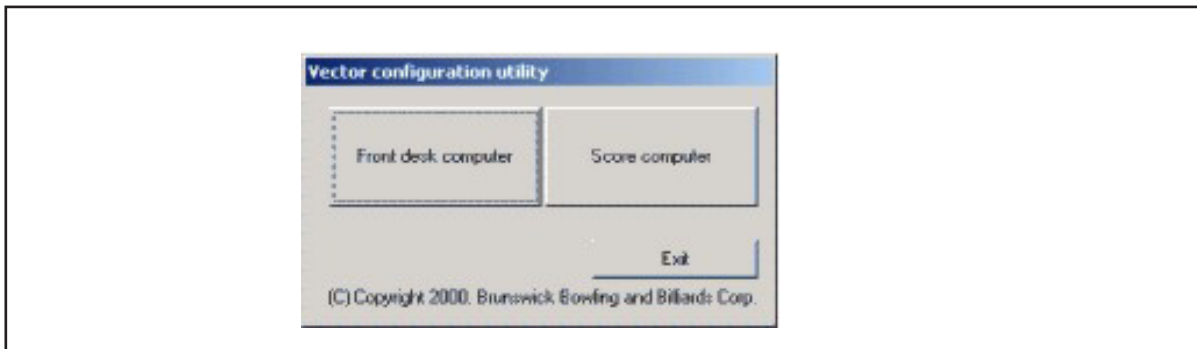

Figure 14. Config.exe screen
2. Select the Score Computer button. *Refer to Figure 14*